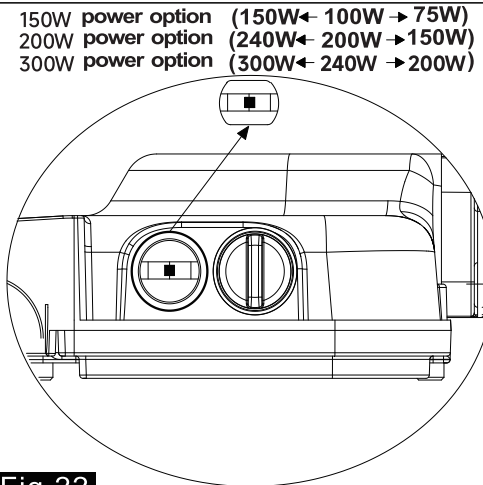

Fig.22
- 2. Dial switch to the corresponding power (Fig.22).